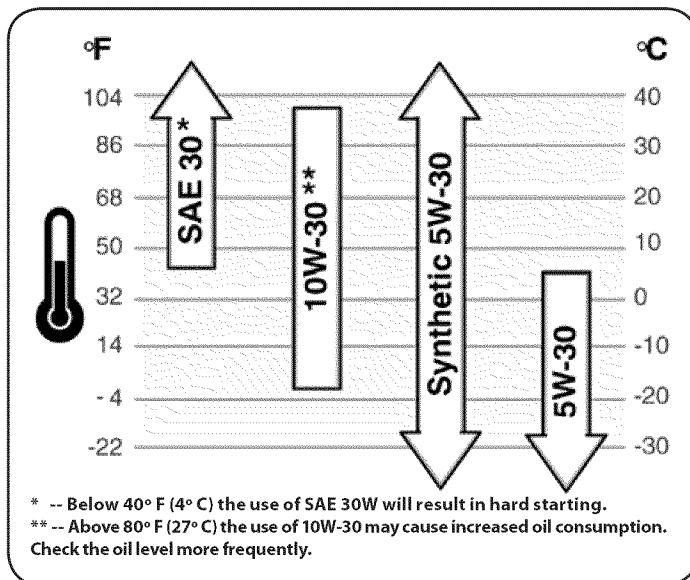

Figure 21
- Refer to the viscosity chart (Figure 21) for oil recommendations. Do not overfill. SAE 30 is recommended for general, all temperature use. Use a 4-stroke, or an equivalent high detergent, premium quality motor oil certified to meet or exceed U.S. automobile manufacturer's requirements for service classification SF, SG, SH, SJ or higher. Motor oils classified SF, SG, SH, SJ will show this designation on the container.